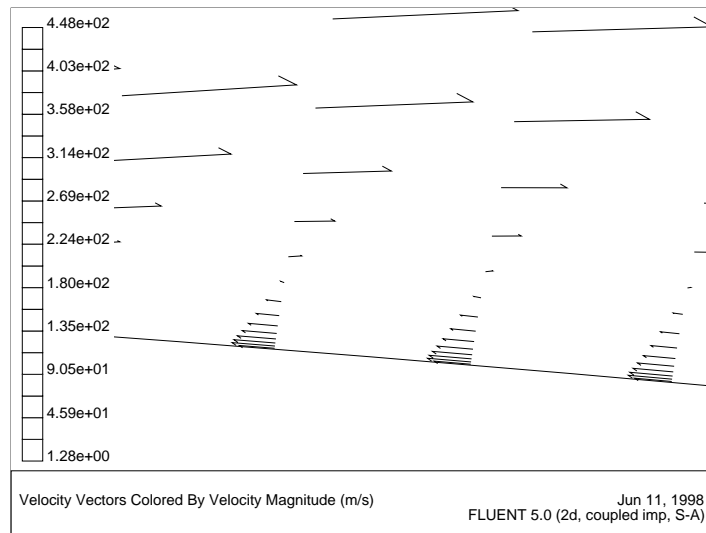

Figure 2.17: Plot of Velocity Vectors Near Upper Wall, Behind Shock
6. Plot velocity vectors (Figure 2.17).
Zooming in on the upper surface, behind the shock, will produce a display similar to Figure 2.17. Flow reversal is clearly visible.